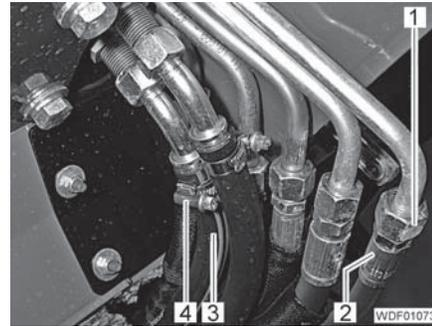

Fig. 353 Hydraulic connections
- Attach 2 heating lines (Fig. 353,3) with clamps (Fig. 353,4).
- Tighten the 2 clamps (Fig. 353,4) and open the heating lines (e.g. remove hose clamps).
- Screw the 5 nuts (Fig. 353,1) onto the hydraulic lines (Fig. 353,2) and tighten.